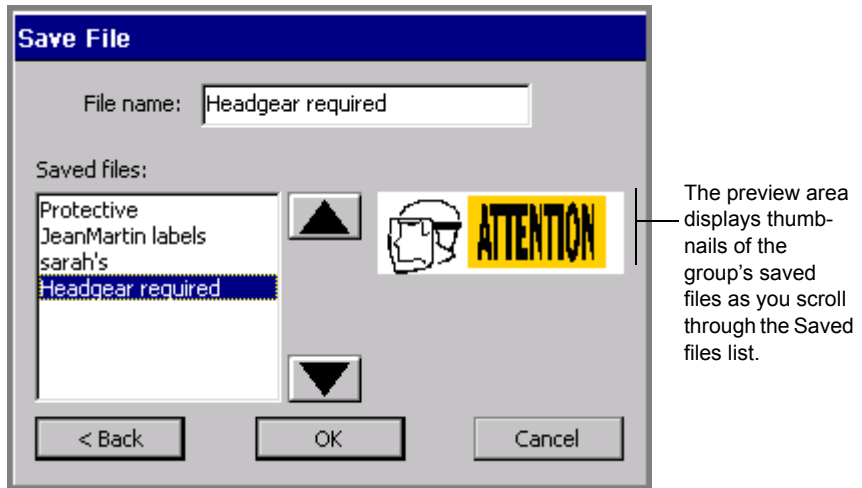

Figure 9-3. The Save File screen.
4. Choose **OK**. You'll see the **Save File** screen (Figure 9-3).